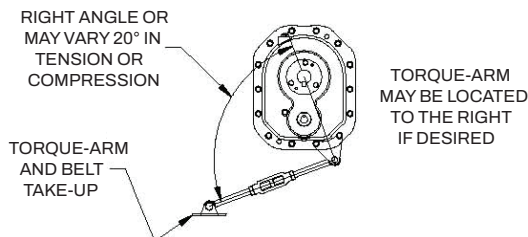

Figure 4 - Angle of Torque-Arm
5. Install Torque-Arm fulcrum on a rigid support so that the Torque-Arm will be approximately at right angles ($\pm 30^\circ$) to the center line through the driven shaft and the Torque-Arm anchor screw (Figure 4). Make sure that there is sufficient take-up in the turnbuckle for belt tension adjustment when using V-belt drive